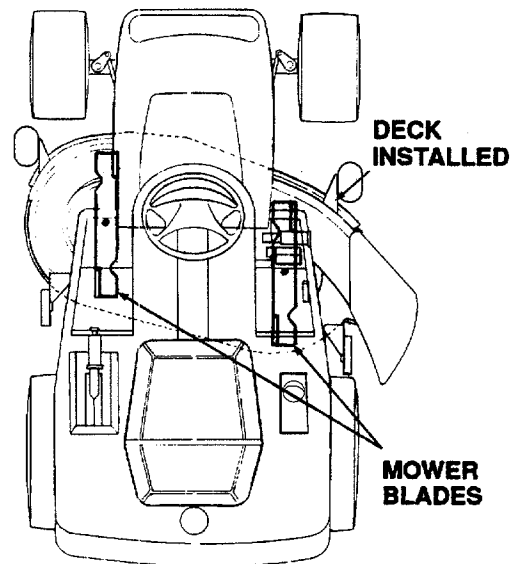

**Figure 34**
8. Side-to-side leveling is obtained utilizing the adjustment ferrule and right hand hanger bracket (Refer to Figure 34).
9. Loosen the upper jam nut on the hanger bracket and turn away from the adjustment ferrule. Turn the lower lock nut upward (tighten) on the threads of the hanger bracket to raise the right side of the mower deck. Turn the lock nut down (loosen) on the threads to lower the right side of the mower deck (Refer to Figure 34).